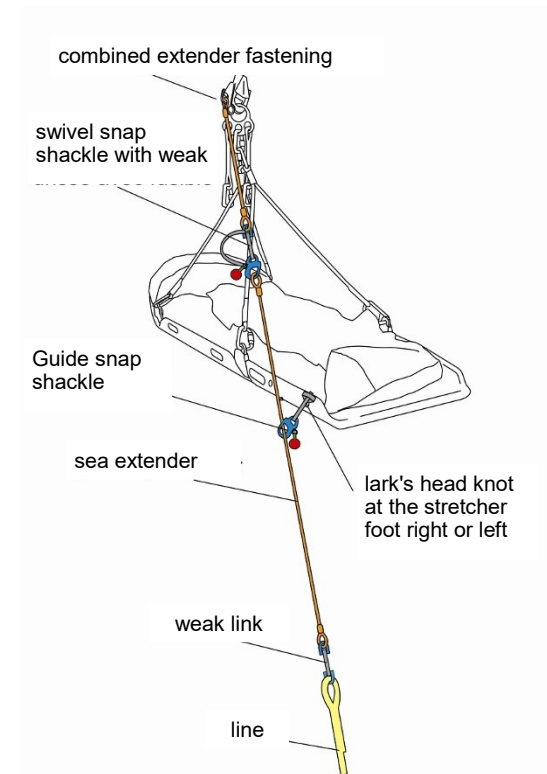

Figure 22
①	The sea extender and the line	100	Weak link CR100L100
②	The combined extender and the sea extender	35	Weak link CR35L100
③	If it breaks, a longer weak link strap (300 mm) allows the snap shackle to be opened and the release of the sea extender.	100	Weak link strap CR100L300
④	The heaving line and the bag	100	Weak link CR100L100
⑤	The snap shackle guide at the foot of the stretcher	100	Stretcher foot weak link strap CR100
⑥	The bag and the rescuer	35	Weak link CR35L100
11.1 Fastening the stretcher in the combined version (Figure 22)